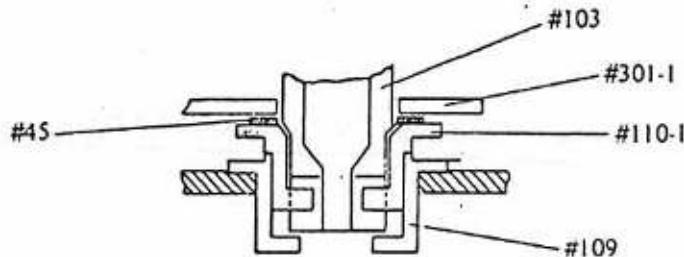

Figure 2 Modified Unit
- To solve the trouble, a 0.2-mm washer has been inserted between P/N 110-1 and P/N 301-1 to prevent P/N 100-1 from rising up (Fig. 2), and P/N 111 from slipping beneath P/N 110-1.